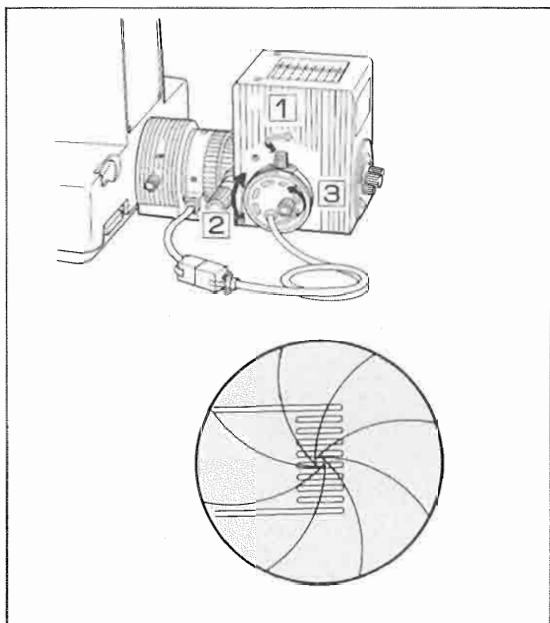

Fig. 44
- (6) Loosen the lamp socket clamp screw [1]. Center the filament image by manipulating the vertical and lateral centering screws [2], as shown in Fig. 44.